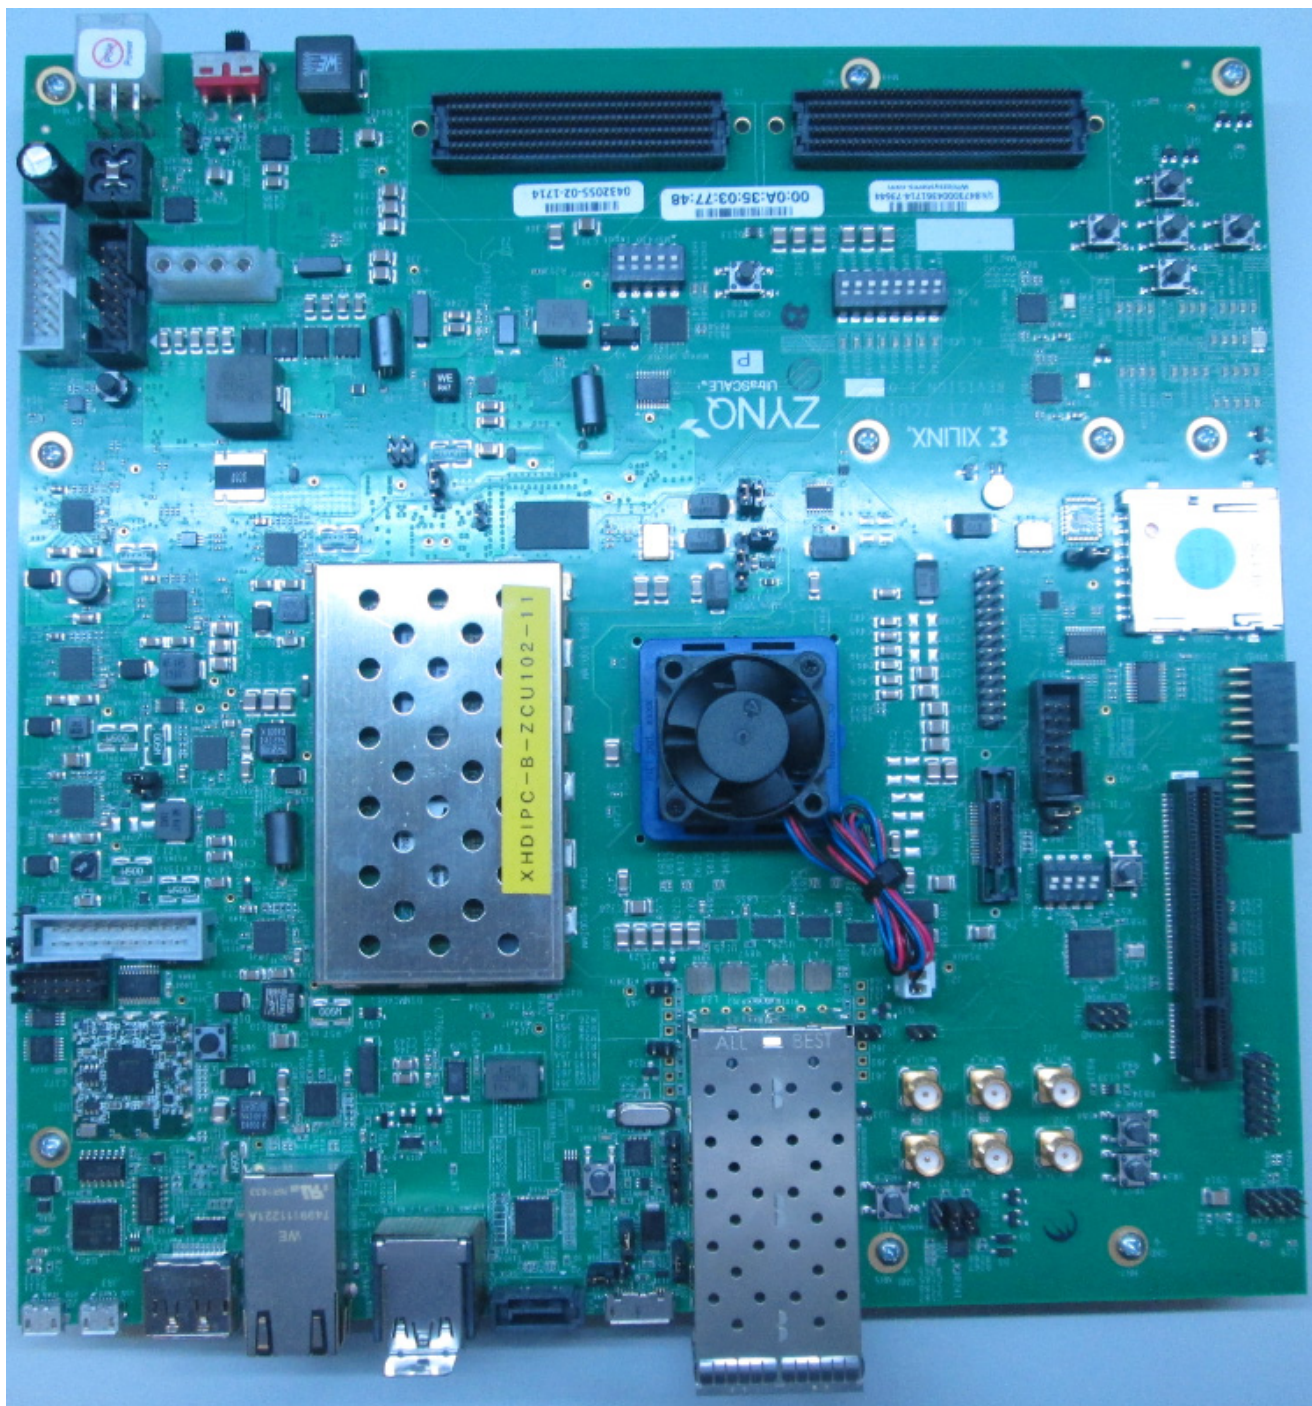

Figure 5-5: ZCU 102 Board
- g. Ensure the board switches and jumpers are in position as shown in Figure 5-5. Ensure that all SW6 switches are set to the ON position to allow programming from JTAG.